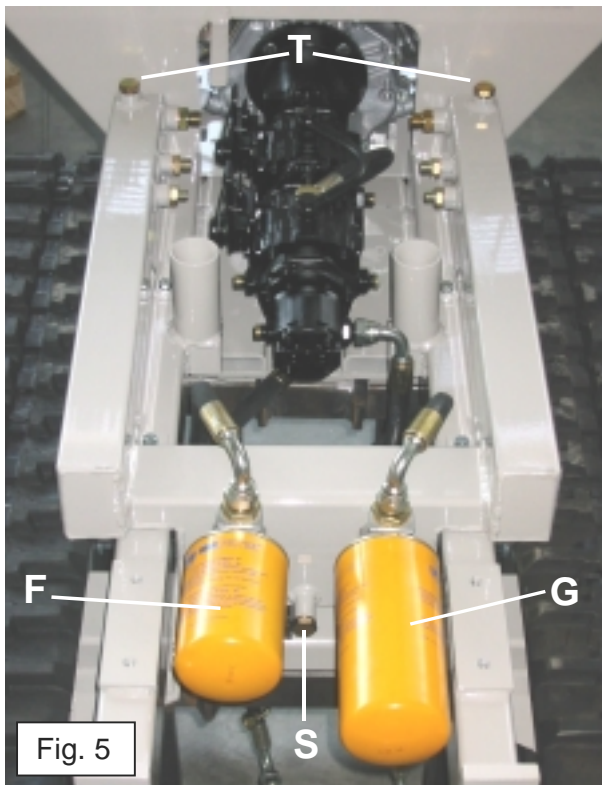

Fig. 5
- To do this it is necessary to empty the tank: slightly tilt the machine forward and remove the discharge cap (part. S fig.5) under the filter, inserting a container beneath it to ensure that the excess oil does not leak out.
- For speed up the filling, removing the stoppers of vent (part. T Fig. 5) of the inferior tank